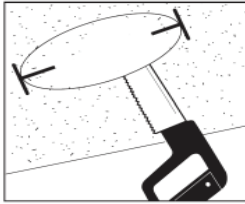

Figure 1 / Figura 1 / Schéma 1
■ If new hole is to be cut, use provided hole template. Place template over the desired location. Trace the outer ring with a pen or pencil (not included). Cut the opening with a saw (not included). (Figure 1)